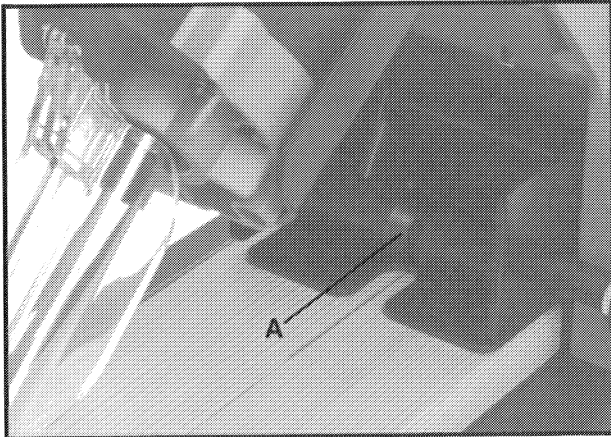

Fig. 8
3. Place material to Pocket Cutter® aligning a pencil mark with the center of the "V"-notch in the work clamp roller (A) Fig. 8. Rotate work clamp lever counterclockwise to secure workpiece to machine.